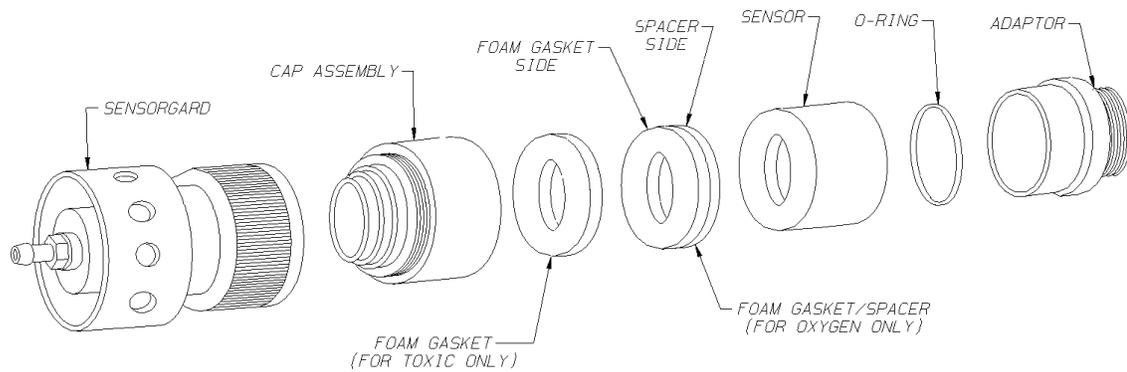

Fig. 42 Cap Location for Remote Toxic Gas or Oxygen Explosion-proof Sensor
- (2) There is no need to open the main or remote enclosure; simply unscrew the cap located on the bottom of the sensor assembly (Fig. 40 "Cap Location for Remote Combustible Gas Explosion-proof Sensor" through Fig. 42 "Cap Location for Remote Toxic Gas or Oxygen Explosion-proof Sensor"). For combustible versions, unscrew the gas-tight union (see Fig. 6 "Toxgard II Cable Entries").